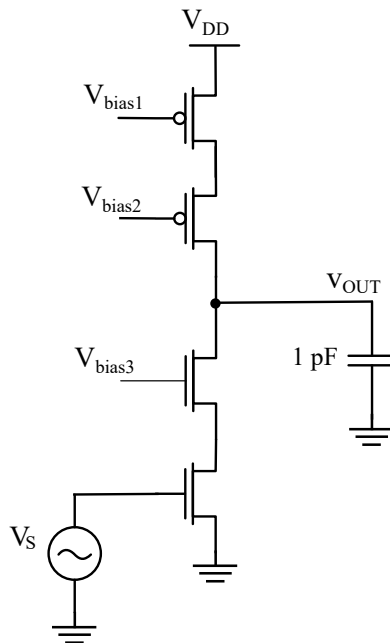

Figure 4: Circuit for cascode amplifier
A cascode amplifier is also named the “telescopic” cascode. It consists of a common source stage (CS) with a common gate stage (CG), as shown in Fig 4. Compared to a single amplifier stage, this combination may have one or more characteristics: higher input-output isolation, higher input impedance, high output impedance, and higher bandwidth. The stability of the cascode amplifier is another essential aspect that has to be covered. The cascode design is a stable configuration itself. The bottom transistor’s source and drain terminals have virtually constant voltage levels, and there is nothing to provide gate feedback. Whereas the higher transistor likewise keeps the source and gate terminal voltages constant. There are only output and input nodes with the appropriate voltage values.